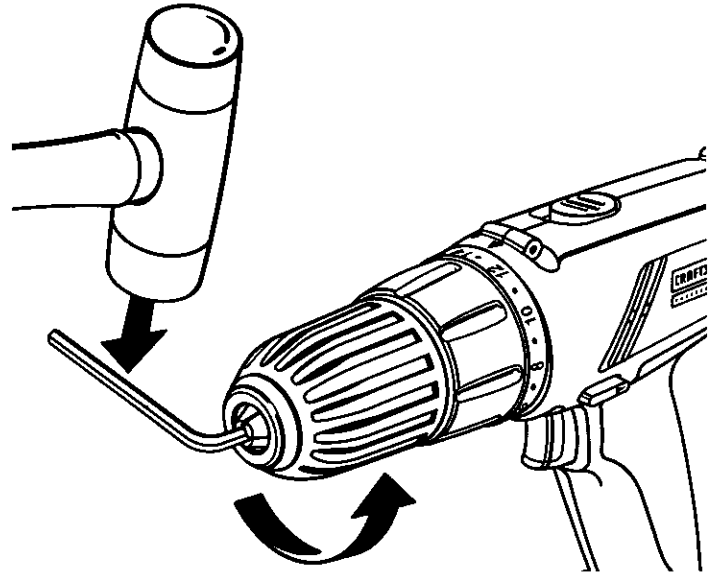

Fig. 16
- Insert hex key in chuck and tighten chuck jaws securely. Tap sharply with a mallet in a counterclockwise direction. This will loosen chuck on the spindle. It can now be unscrewed by hand. See Figure 16.